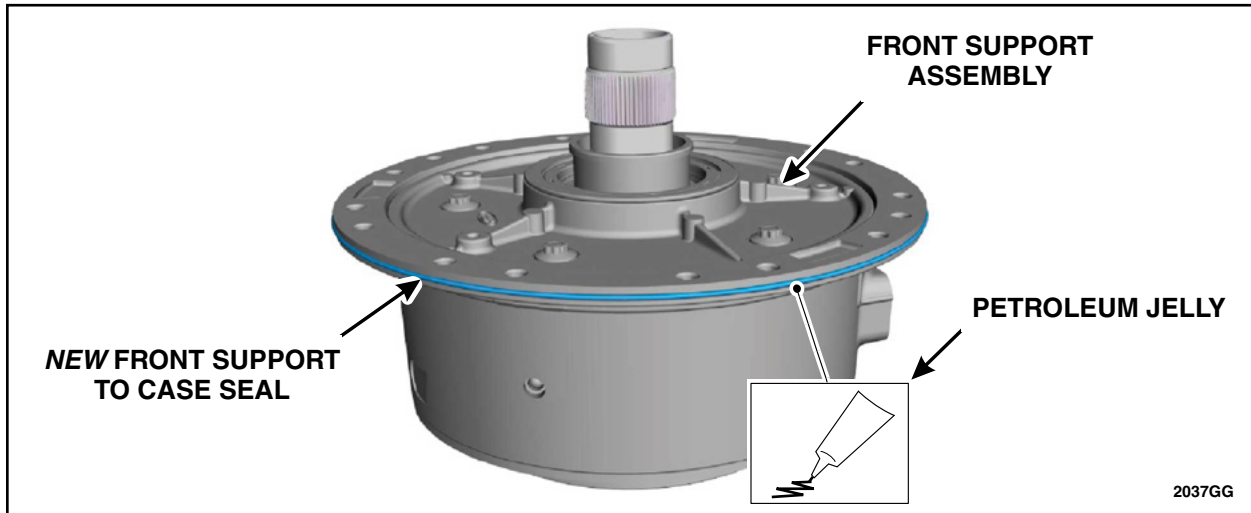

FIGURE 26
28. Install the *new* front support-to-case seal. Lubricate the seal with petroleum jelly. See Figure 26.